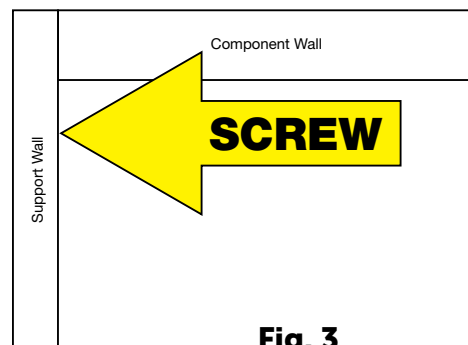

Fig. 3
Step 1: Referring to Fig. 3, butt the Component Wall (Long) up against the Support Wall (Short) at a 90° angle and secure using 3" screws.